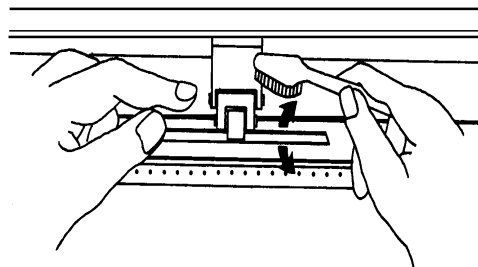

Figure 5-1
3. Use a bristle brush (a toothbrush is acceptable) to remove dust from the drum surface. Rotate the drum manually while cleaning. Refer to Figure 5-1.